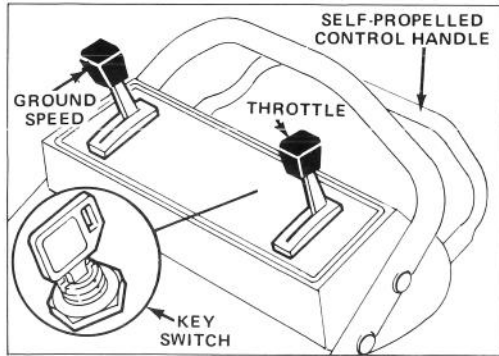

Figure 10
1. **CONTROLS** — Key switch (Key Start Models) throttle, ground speed control and self-propelled control bar are on upper handle (Fig. 10). Fingertip starter is on top of engine.
2. Push high tension wire onto spark plug and on self-propelled models move ground speed control to "N" (Fig. 10).
4. **KEY-ELECTRIC STARTING** — Move throttle (Fig. 10) to CHOKE. Turn Key (Fig. 10) to START and release when engine begins running. Regulate throttle as desired.